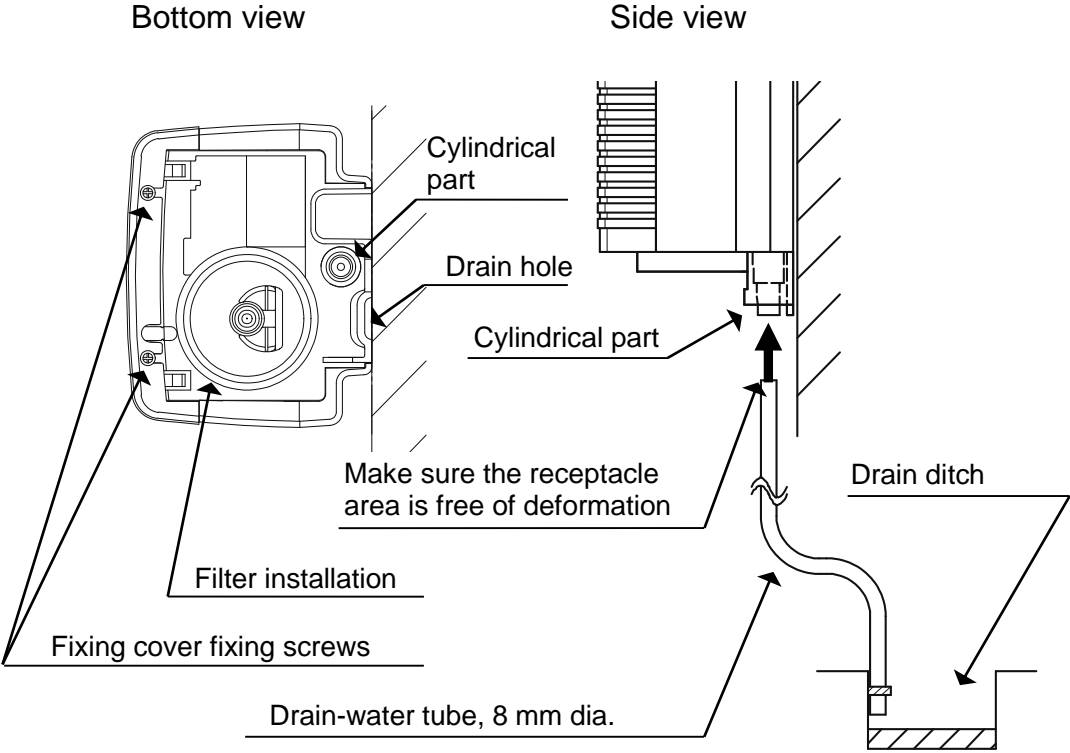

Fig.2-3 Installation of the drain-water tube
3.1 Drain System (see Fig.2-3)